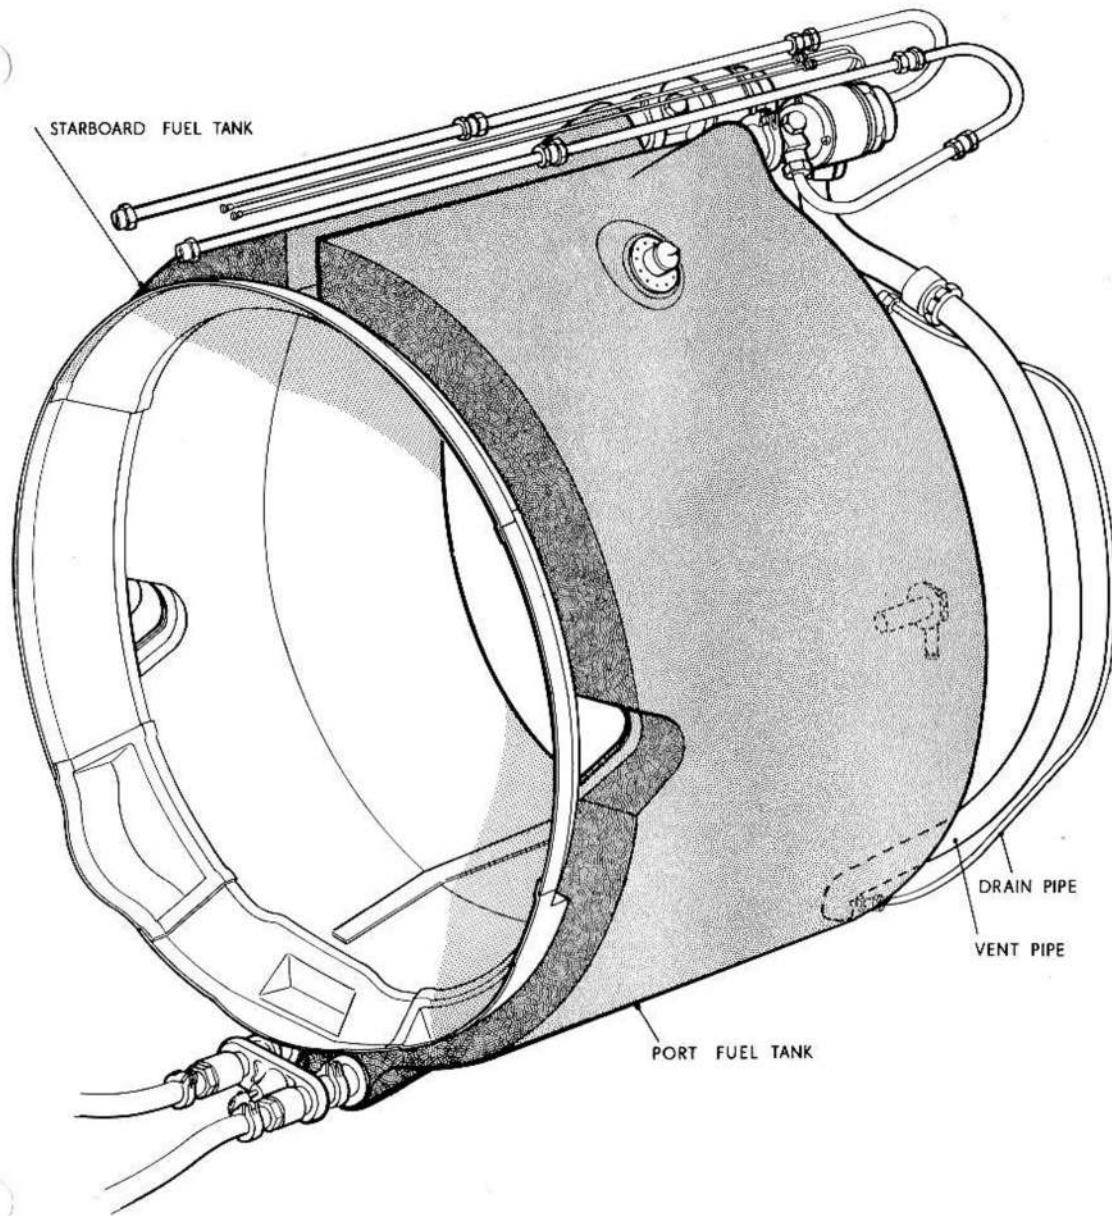

FIG.13 REMOVING REAR FUEL TANKS
Removal of rear tanks (fig.13 to 20)
- (1) Render the aircraft electrically safe (Sect.5, Chap.1, Group A.1).
- (2) Drain the fuel system (Sect.2, Chap.2).
- (3) Remove the tail cone (Sect.3, Chap.1) and jet pipe (Sect.4, Chap.1).
- (4) Drain any residual fuel from the pipes between the front and rear tanks by means of the two drains (fig.13). (Any fuel remaining below the drains will be released on disconnecting the fuel pipes at the transport joint).
- (5) Remove the rear fuselage (Sect.3, Chap.1).
Removing fire protection ring (fig.13 and 14)
Removing twin gate valve (fig.13 and 15)
Removing fuel gauge terminal box (fig.13 and 16)
Removing fuel level switch (fig. 13 and 17)
Removing fireproof box (fig. 13 and 18)
Removing suction and pressure relief valve (fig. 13 and 19)
Removing detachable panels and tank (fig. 13 and 20)